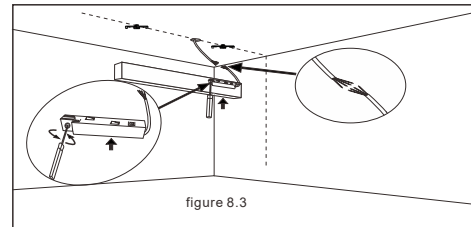

figure 8.3
3. The conductive joint into orbit to hole this end, conducting joint security card buckle knobs, use a screwdriver screw clockwise card clasp, conductive joint line and DC smallpox; (figure 8.3)